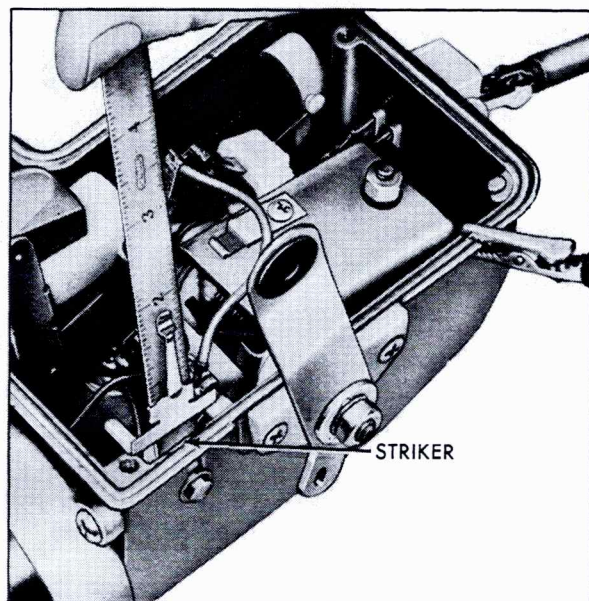

Fig. 15-16 Limit Switch and Throttle Switch Adjustment
4. Loosen screw securing striker to housing and move striker up until motor runs. Then slowly move striker down until motor just stops running, and tighten screw. Measure distance from housing to top of striker, Fig. 15-16, using a "T" scale. Increase measurement $1/32''$ on "T" scale. Loosen screw securing striker to housing and adjust striker by placing "T" scale on housing and at top of striker, maintaining new dimension. Tighten screw.